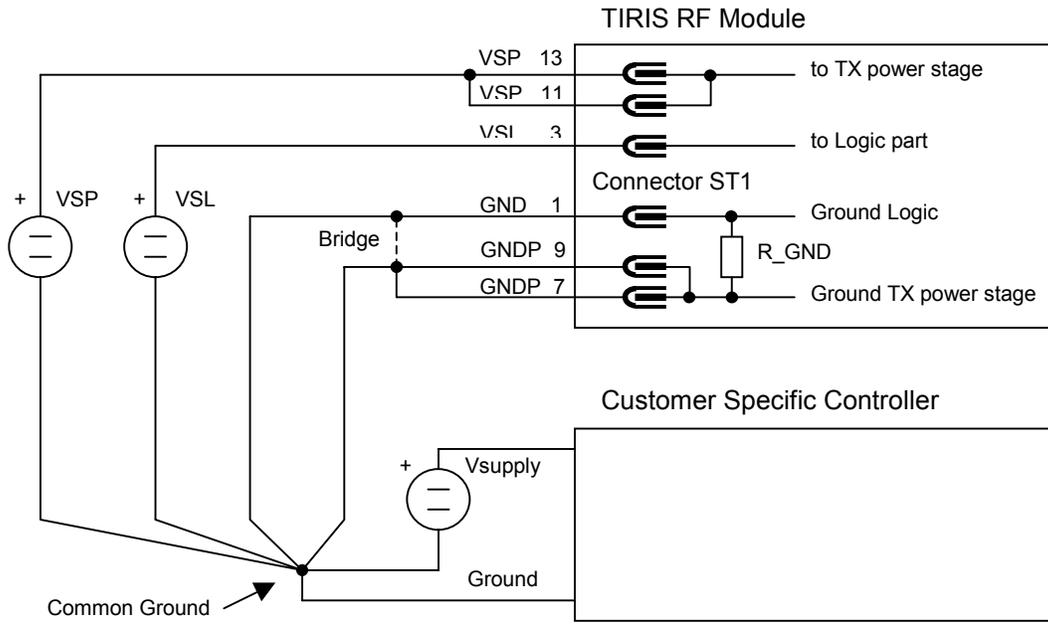

Figure 9: External Ground Connection (GND to GNDP)
1. A high resistivity of the GNDP pins could cause a voltage drop across these pins, due to high transmitter power stage current (this does not apply to the supply pins of the logic section). If the grounds were connected to each other internally, this would also lift the internal logic ground and cause logic level compatibility problems with the Control Module (see Figure 9).
2. In order to provide greater flexibility when using long supply lines. Long VSP supply lines between the RA-RFM and the Control Module cause a voltage drop across this supply line (again due to high transmitter power stage supply current). This voltage drop would also lift the logic ground and cause logic level compatibility problems with the Control Module. This can be avoided by connecting the grounds externally in any of three different ways (see also Figure 9) as described below:
- For cable lengths of up to 0.5 m between RA-RFM and Control Module, the RFM ground pins GND and GNDP must be connected at the Control Module, as shown in Figure 9. The grounds for the VSP, VSL and the Control Module supply are connected together at a common ground. Alternatively, if the voltage drop across the VSP supply line is less than 0.5 V (likely in this case), the ground pins GND and GNDP may be connected together at the RA-RFM. If the system has a TIRIS Control Module, the RA-RFM ground pins GND and GNDP are already connected together correctly on the Control Module. When using a customer-specific controller, care must be taken to connect the RA-RFM ground pins GND and GNDP to an appropriate ground on the controller.
- Cable lengths longer than 2 m are not recommended. If the application demands cabling longer than 2 m, the logic signal connections between the RA-RFM and the Control Module should be done via a differential interface (for example RS422). Due to different ground potentials at different locations it may also be necessary to provide galvanic separation of the interface signals by, for example, opto-couplers. In this case, to avoid problems with difference voltages between GND and GNDP, these pins must always be connected directly at the RA-RFM. As shown in Figure 9 a shorting bridge is necessary for this purpose, situated as close as possible to the RA-RFM.